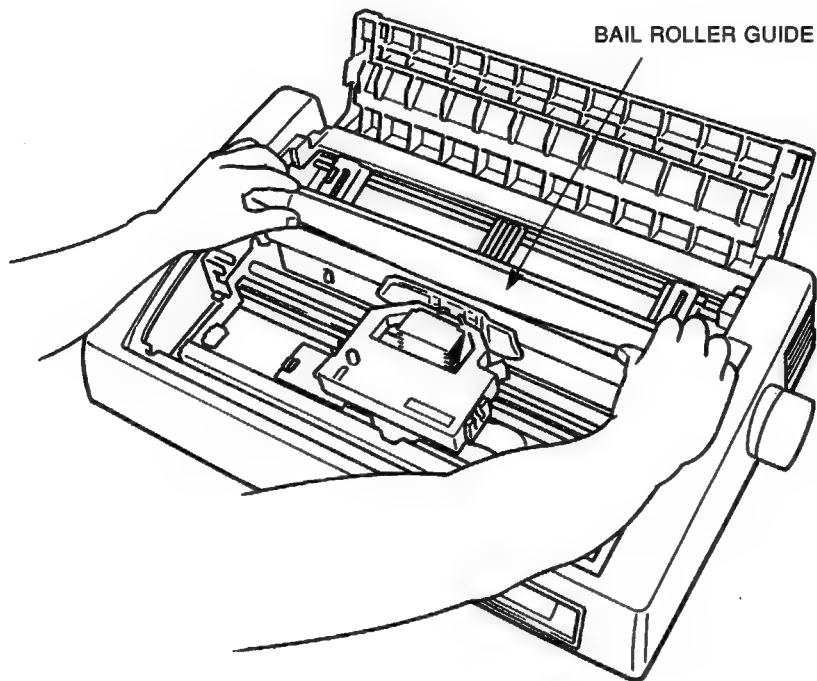

Figure 3-3 Bail Roller Guide
2. Open the bail roller guide (see Figure 3-3).